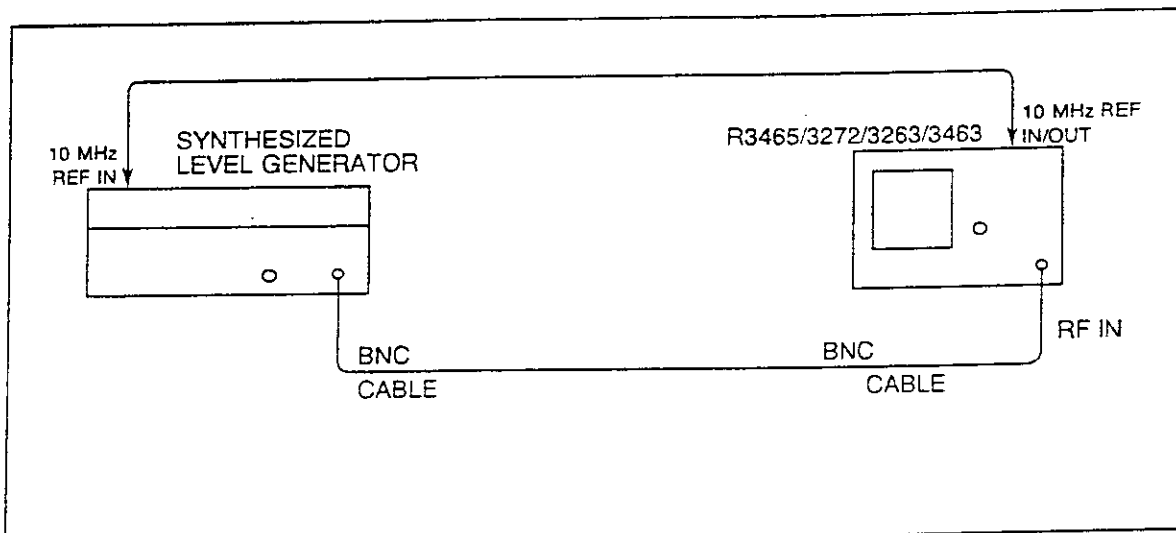

Figure 1-15 Scale Fidelity Test Setup
This test measures display accuracy for 1 dB, 10 dB log scales, X1 linear scales. All scales are measured with 0 dBm reference signal. Figure 1-15 illustrates the measurement system of this test. The Synthesized Level Generator is phase-locked to the 10 MHz reference source of the spectrum analyzer.
- (1) Connect the equipment as shown in Figure 1-15.
- (2) Set the SG4 controls as follows: